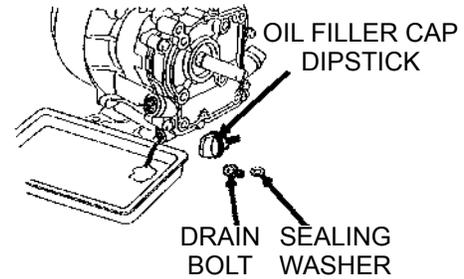

Figure 27. Engine Oil (Draining)
1. Drain the engine oil when the oil is warm as shown in Figure 27.